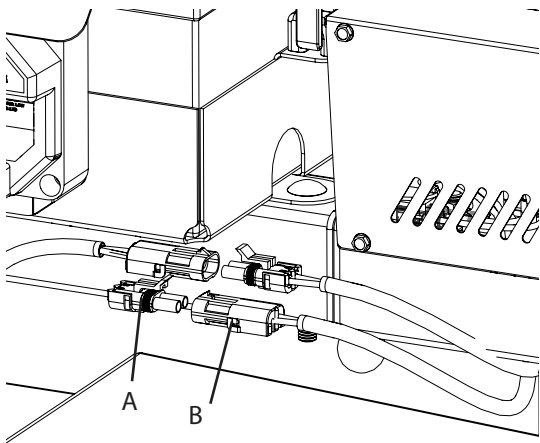

Figure 12: Install plug into the unused speed controller harness (if applicable).
- In some instances the battery and the speed controller do not connect directly. This leaves an unused plug for the speed controller. In this instance install plug (A) onto unused plug (B) from the speed controller. (Figure 12)